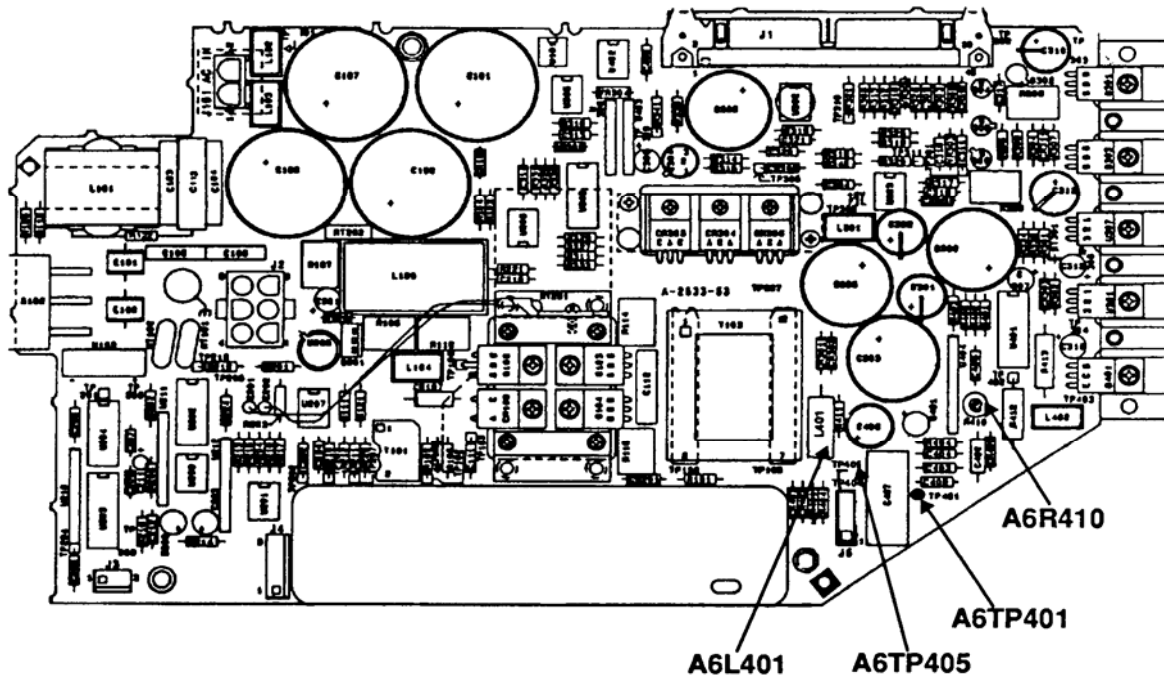

Figure 9. Power supply location sheet.
- (2) Remove A6 power supply cover.
- (3) Set multimeter to measure 1000V dc.
- (4) Connect multimeter **INPUT HI** to A6TP405 (fig. 9) and **INPUT LO** to A6TP401 (fig. 9).
- (5) Record dc voltage marked on A6A1 HV module (located at TI top).
- (6) Note the value of inductor A6L401 (fig. 9). If A6L401 (fig. 9) is 10 mH, perform (7) and (8) below. If A6L401 (fig. 9) is 20 mH, perform (7) and (9) below.
- (7) Press TI **LINE** switch to **ON**.
Perform (8) below **ONLY** if A6L401 (fig. 9) is 10 mH.
- (8) If multimeter does not indicate a dc voltage equal to 2 V above the dc voltage recorded in (5) above, perform **b** (1) below.
Perform (9) below **ONLY** if A6L401 (fig. 9) is 20 mH.
- (9) If multimeter does not indicate a dc voltage equal to the dc voltage recorded in (5) above, perform **b** (2) below.
- (10) Press TI **LINE** switch to **OFF**.
(1) Adjust A6R410 (fig. 9) for a dc voltage equal to 2 V above the dc voltage recorded in (5) above (R).
(2) Adjust A6R410 (fig. 9) for a dc voltage equal to the dc voltage recorded in (5) above (R).